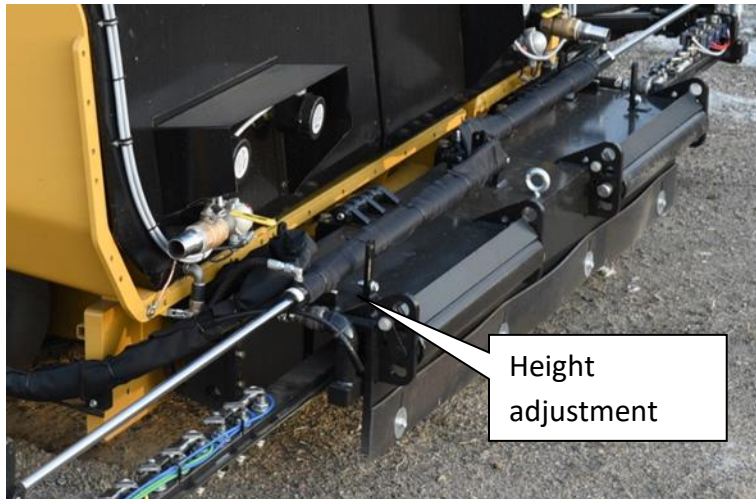

Figure 13: Front spray bar height adjustment tabs
- b. Remove the fasteners in the five front spray bar height adjustment tabs (see Figure 13).